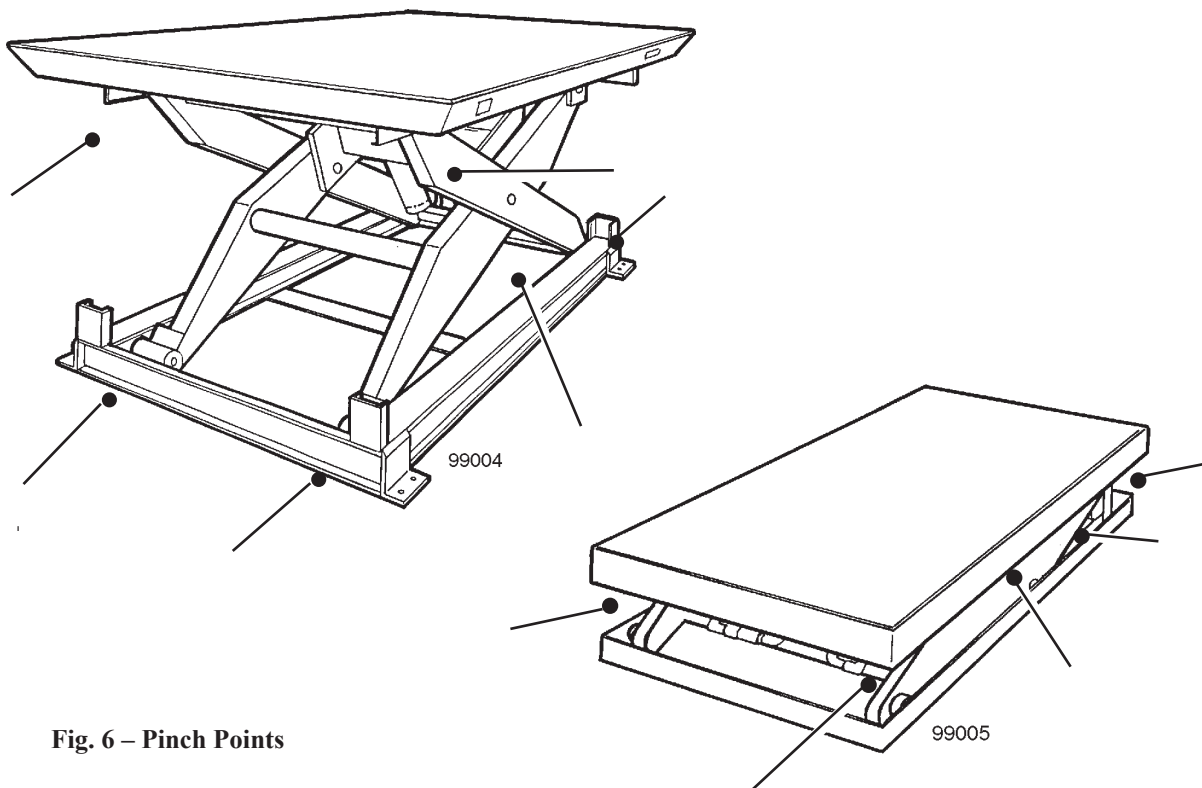

Fig. 6 – Pinch Points
As the lift table moves up and down, “pinch points” are created at the places shown in Figure 6. If you are standing too close to the lift when it is moving, your arm or leg may be caught in the moving parts, and you may be hurt. Stay away from the pinch points when the lift is moving.
As the lift table moves up and down, “pinch points” are created as shown in Figure 6. Stay away from these pinch points! Part of your body or clothing may become caught, and you may be hurt.
- As the lift moves up and down, "pinch points" are formed as shown in Figure 6. Keep hands, feet, and loose clothing away from these pinch points. If your hand or arm or a part of your clothing is caught, you may be hurt.